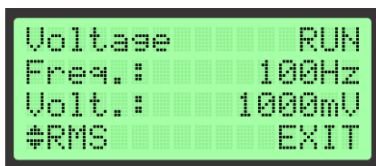
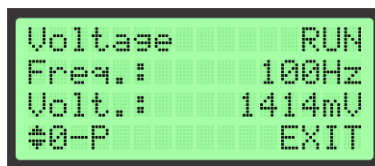
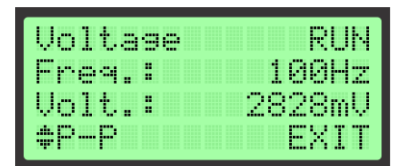

Figure 11 Output as RMS Value
Figure 12 Output as 0-P Value
Figure 13 Output as P-P Value
By pressing Back (↵) the user will also return to the previous Menu. By setting the cursor on the position RMS and by pressing Enter (E) the user can change the desired signal generating mode. User can change the mode depending on how the output voltage is to be displayed: RMS (Root Mean Square) value (See Figure 11), 0-P (Zero to Peak) value (See Figure 12) or P-P (Peak to Peak) value (See Figure 13).